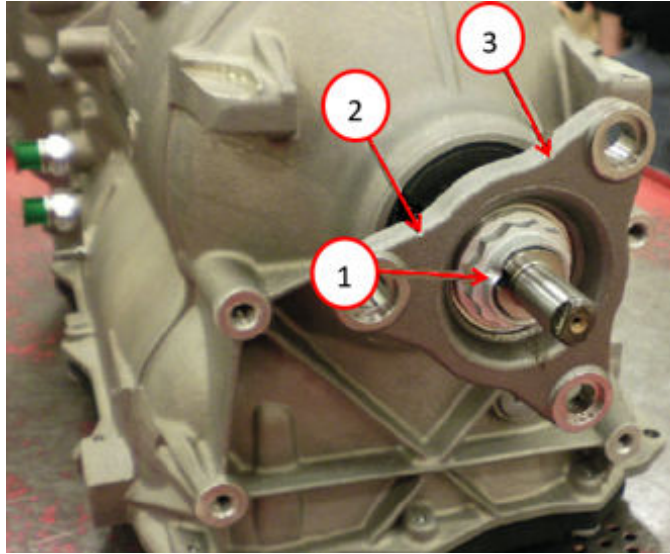

Fig. 5
8. Remove the output shaft flange locknut staking Fig. 5.